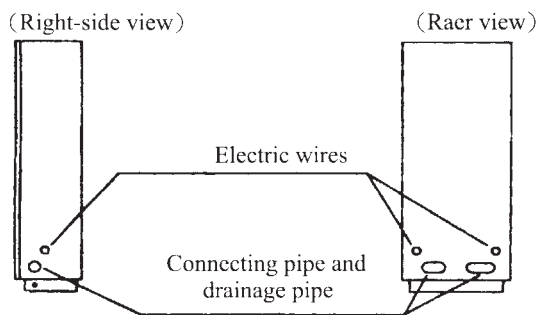
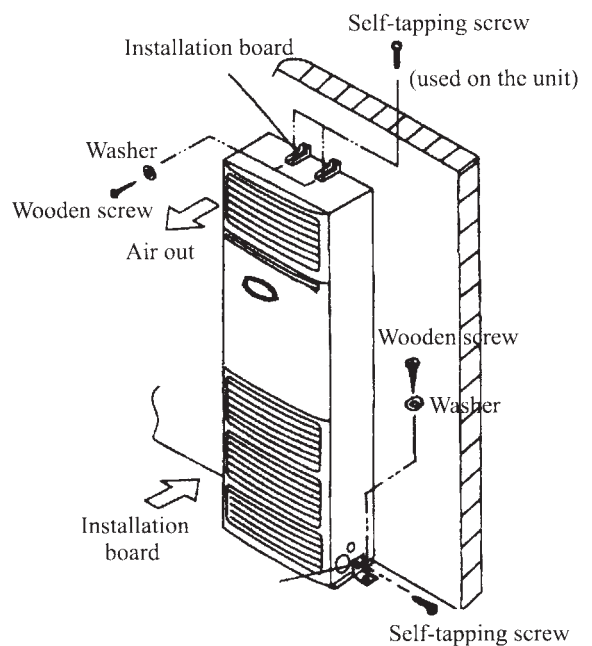

Fig. 19
Fig. 18
- (1) Choose a place for indoor unit installation as described in 7.1
- (2) Use attached installation boards to fix the unit firmly to the wall and the ground (Fig. 18).
- (3) Drill a passing hole through the wall (if the connecting pipe and wires are to go through the wall).
- (4) Choose one of the four hole-positions (2 on the side and 2 on the rear) according to installation place (see Fig. 19), break it through and fit in passing hole cover for the passing of connecting pipe, drainage pipe and wires.